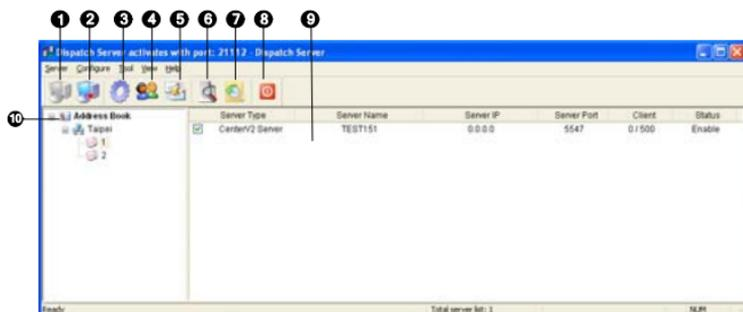
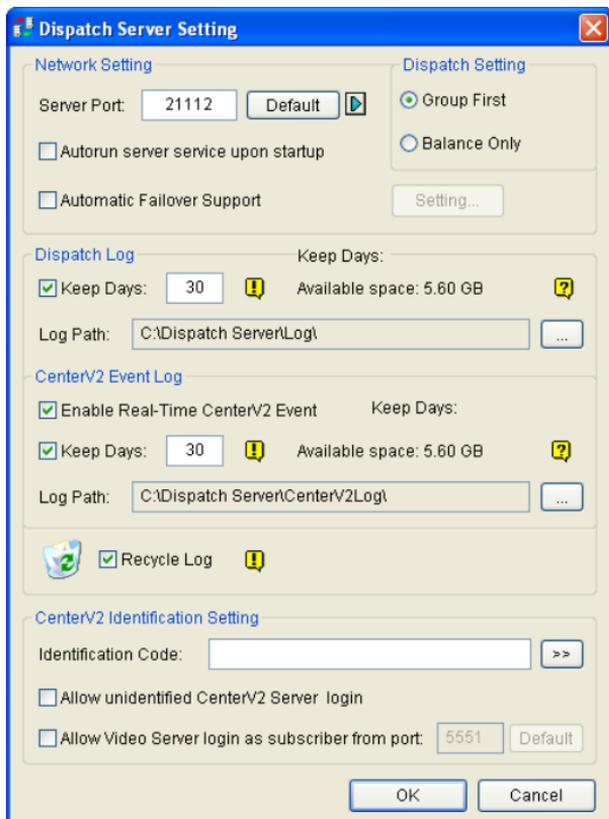

Figure 2-1
Figure 2-8
Dispatch Server can serve up to **50** Center V2 Servers and **25,000** subscribers at the same time. Before starting the services, create at least one subscriber on the Dispatch Server. To create an account, click the **Account** button (No. 4, Figure 2-1) to display this Address Book window.
After subscriber accounts are created, Dispatch Server is ready to provide services. Click the **Start Server** button (No. 1, Figure 2-1) on the Dispatch window to start the services.
[Dispatch Server] Check the **Use Dispatch Server** item to make other settings available. Enter the identification code, IP address, and port of the Dispatch Server. See Figure 2-8.
This feature lets you locate a desired event by posing a query on Center V2 Servers. Click the **Stop/Start Query Center V2 Event** button (No. 6, Figure 2-1) on the toolbar to display the following dialog box. Check the desired query items (Type, ID, Date and/or Time), define your query condition under each item, and then click **OK** to display the query results.
The feature lets you view the real-time events occurred on Center V2 Servers. For the application, make sure the **Enable Real-Time CenterV2 Event** option is enabled; see Figure 2-8. Then click the **Real-Time Event** button (No. 7, Figure 2-1) on the toolbar to display the following window.
2. On the Dispatch Server window, click the **Server Setting** button (No. 3, Figure 2-1). The Dispatch Server Setting dialog box (Figure 2-8) appears.